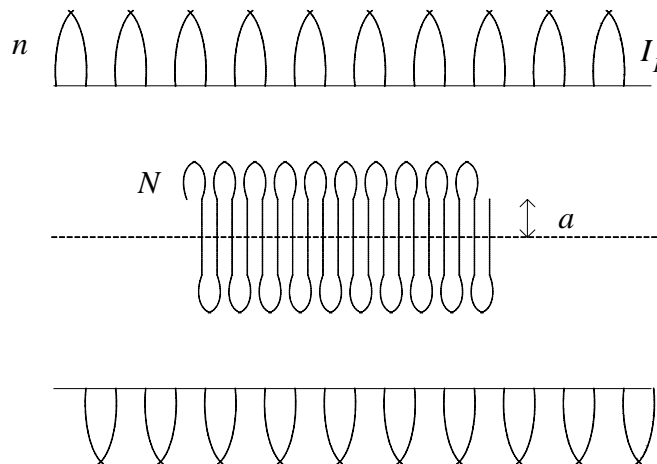

Figure 1: Field and induction coils
According to Faraday's law of induction, voltage can be induced in a circuit due to current passing through a nearby circuit. In this experiment, a large solenoidal field coil (item 6 in the equipment list) is used to generate a time-varying magnetic field by passing an AC current ( $I_1$ ) through it. Smaller coils (items 7-11 in the equipment list) are used for induction (see Figure 1).